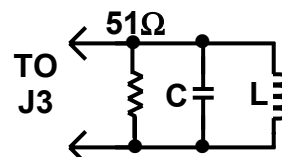

Figure 2
2. If the individual L and C are connected as a parallel resonant circuit and cannot be connected in series as above (for example an antenna trap) the parallel resonance can be estimated. Connect the parallel resonant circuit as shown in Figure 2.